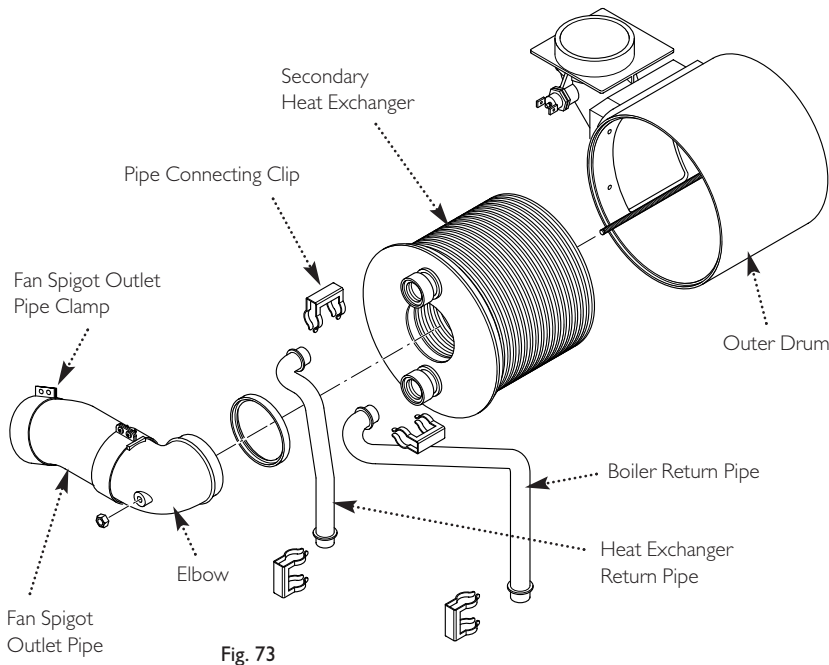

Fig. 73
12.24 Secondary Heat Exchanger (Fig. 73)